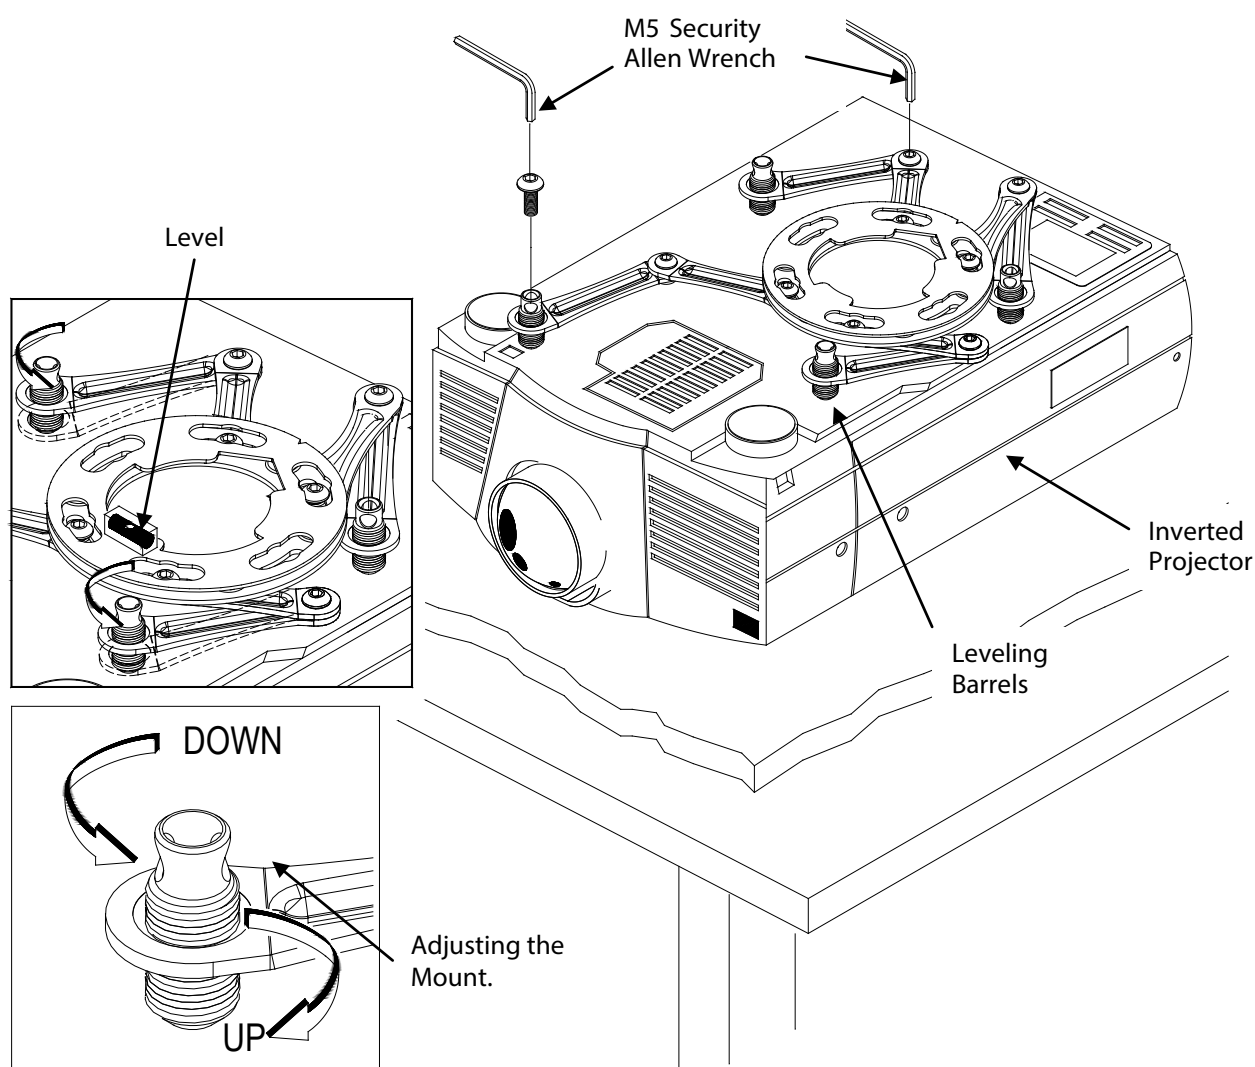

Figure 4. Leveling the Mounting Bracket
Step 3. When the desired position is achieved, tighten the mounting screws to the projector and then tighten the security hex head screw with the M5 Security Allen wrench (Figure 4).